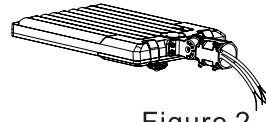

Figure 2
Step 2: Install the bracket on the fixture. (Fig. 2)